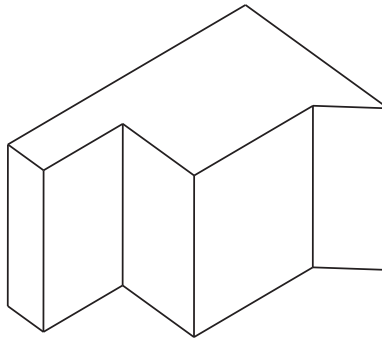

Figure 1: Geometry for question 5
5. On the back of this sheet, sketch two copies of the 2D sketch necessary to create the geometry shown in fig. 1. Include lines and a rectangle that illustrate the three default datum planes as they would appear in sketch mode. Place dimensions on your sketches that illustrate two alternative dimension schemes that will exactly constrain (no over or under constraint) the size and shape of the 2D sketch.